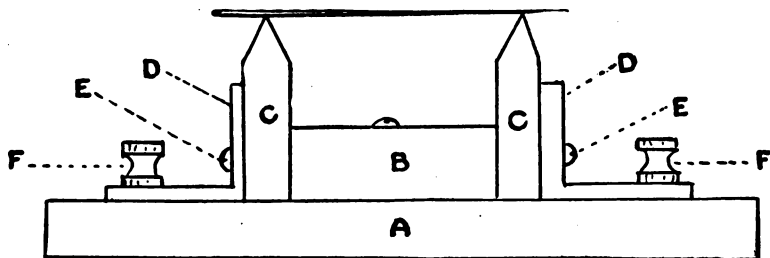

Fig. 11
The base (Fig. 11, A) is a piece of wood to which is screwed a small piece of hard wood (B). The two pieces of carbon (C, C) are sharpened to a V-shaped point at one end, and are drilled with $1/8''$ holes near the other ends. The carbons are then placed against the block B, and the strips of brass, bent as shown at D, screwed against the carbon by screws passing through both, as at E, E. The binding-posts are then screwed into the base through the outer portion of the strips at F, F. A fine steel needle laid across the carbon points completes the detector. In connecting the receivers of your wireless and using this detector the aerial